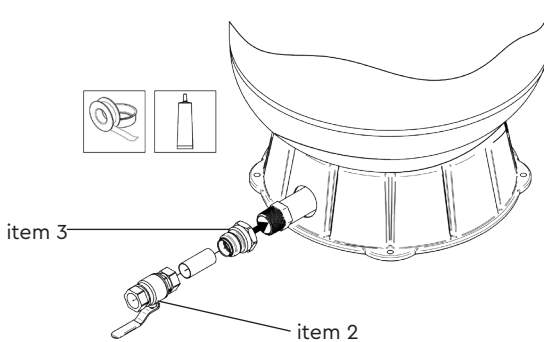

Fig. 8
- a) Screw the Mainsboost vessel connector (item 3) provided in the upstream line-in kit on to the tank inlet pipe at the base using suitable thread seal such as PTFE tape or liquid thread lock (see Fig. 8).